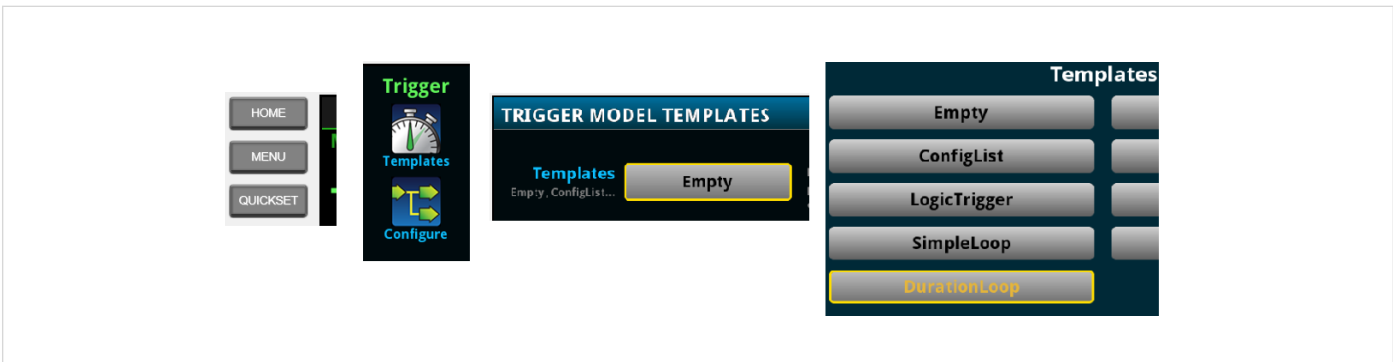

Figure 2: Enabling the “DurationLoop” option from the Front Panel.
- Then select **DurationLoop** from the bottom of the of “Templates” dialog (see **Figure 2**).